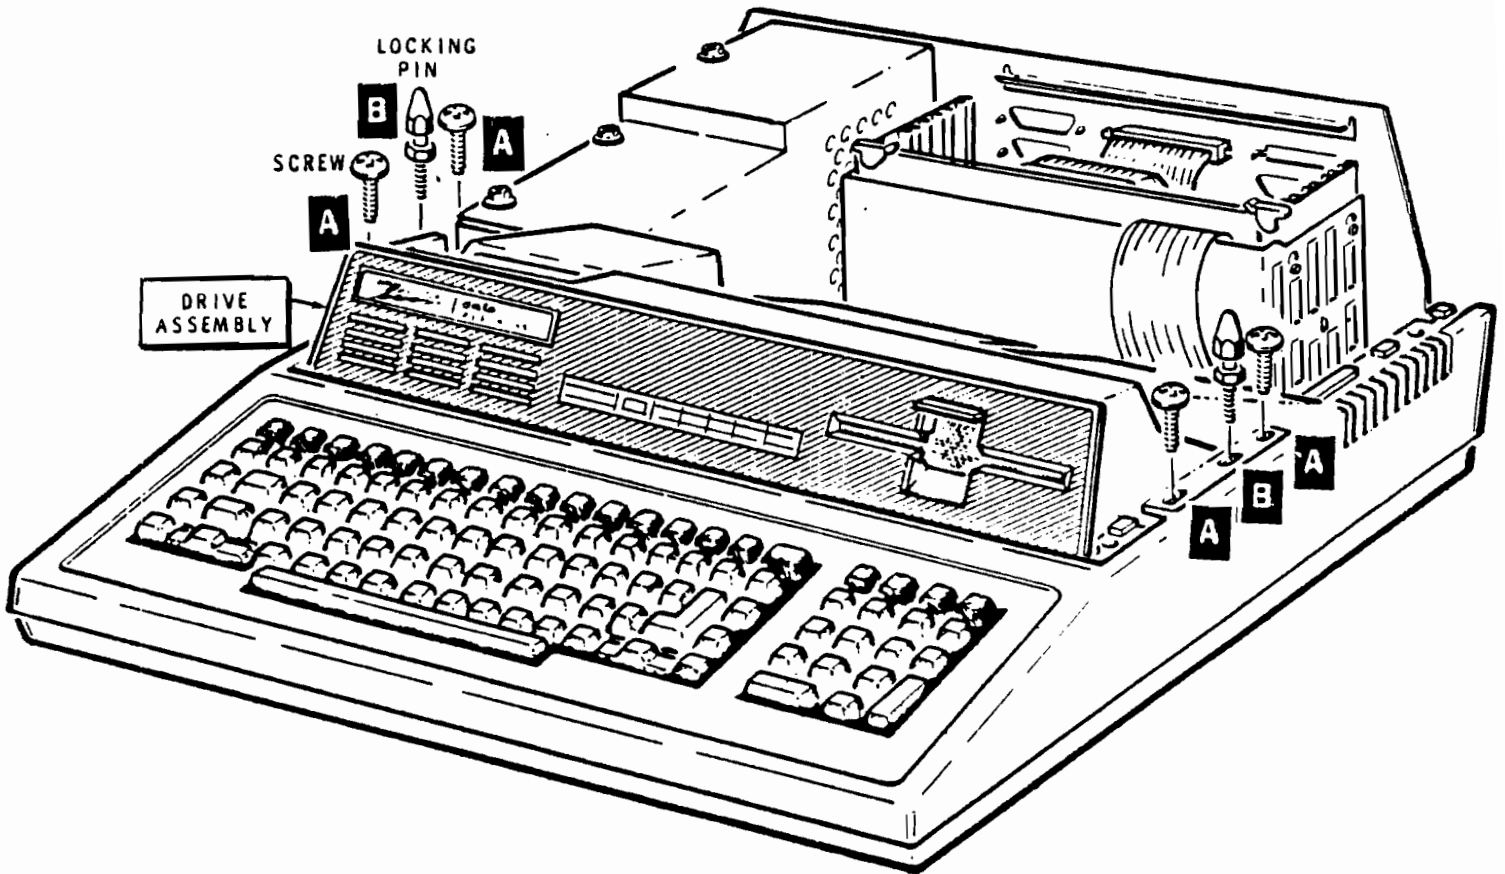

Figure 2
11. Reassemble the drive assembly back into the Z100 system. Connect the power cables to all drives and the flat cable(s) to the floppy drive(s). Anchor with the four screws and two locking pins removed in disassembly (Figure 2).